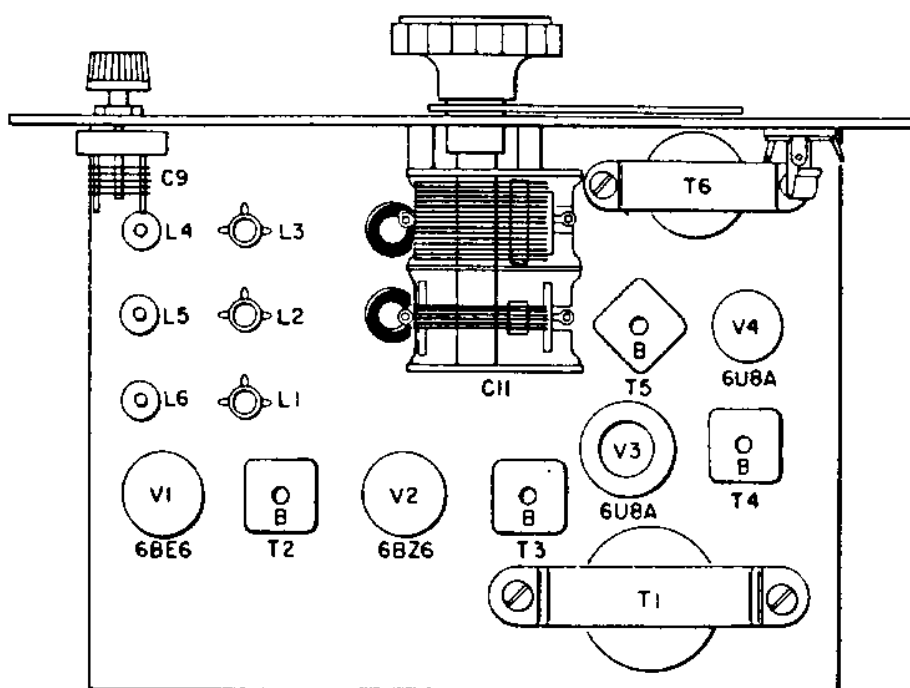
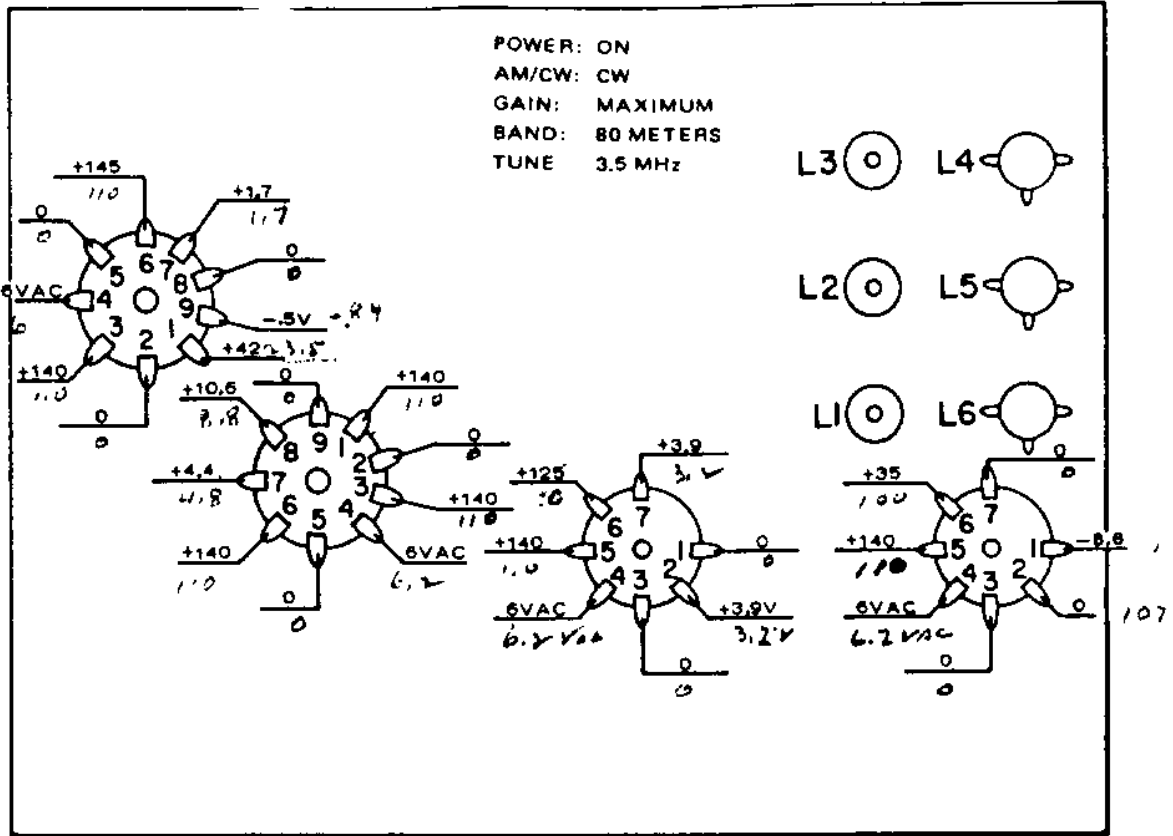
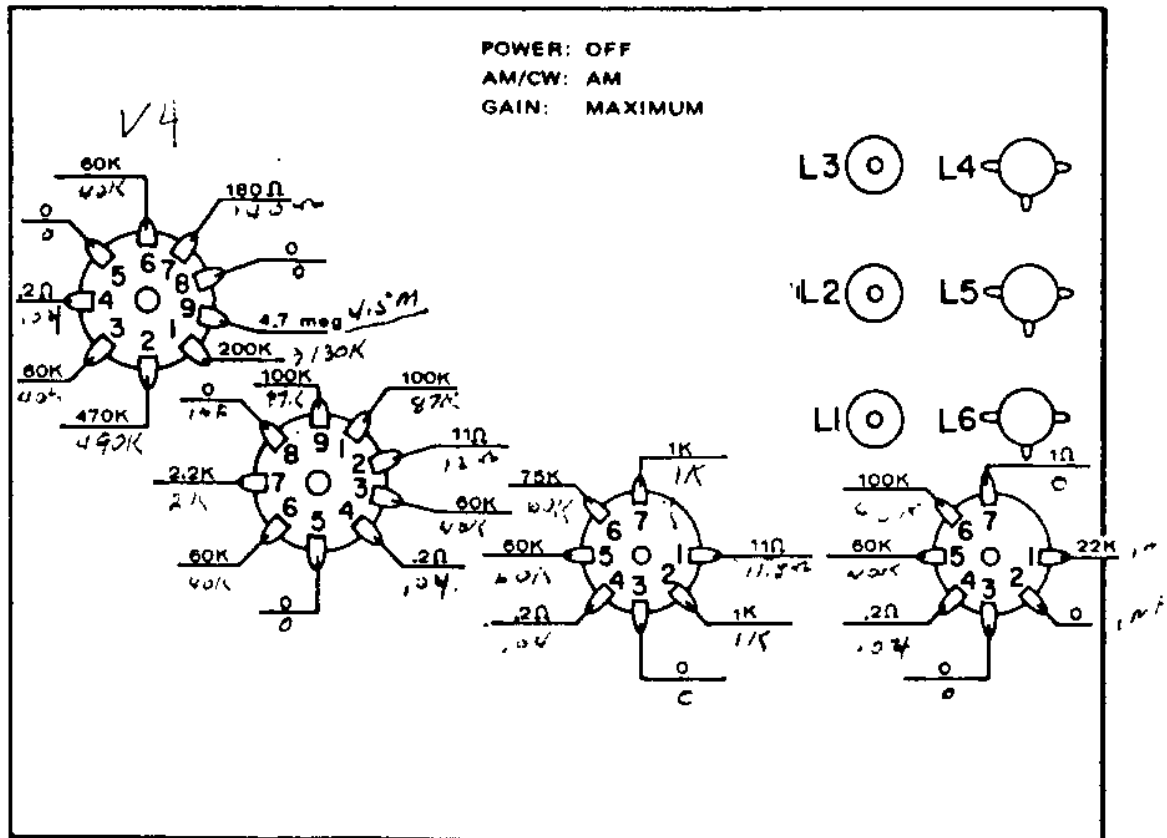
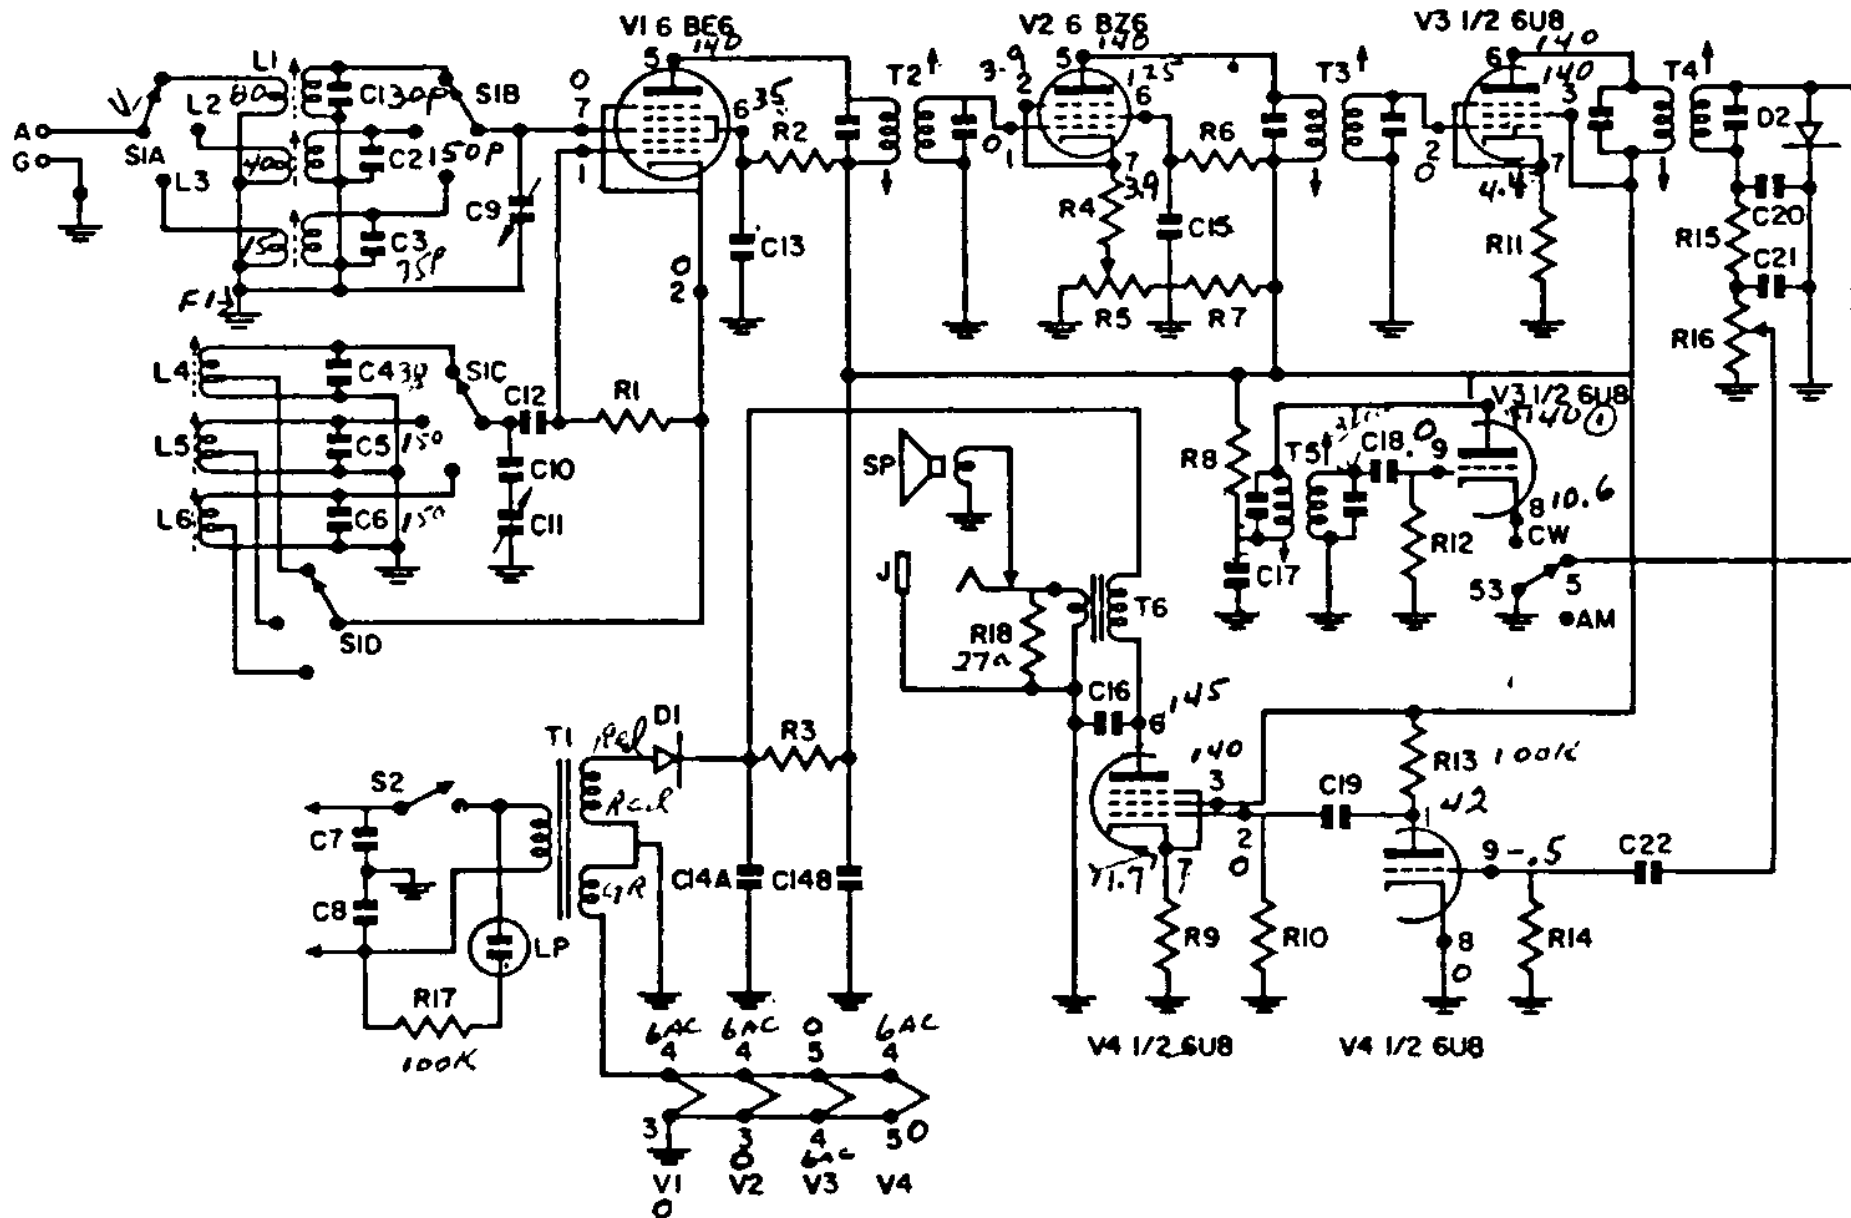

Fig. 5. Components on top of chassis.
Fig. 6. Voltage measurements.
Fig. 7. Resistance measurements.
Fig. 9. Schematic diagram of the Model 500 receiver
Fig. 5 shows the location of various parts on top of the chassis. The part number refers to the numbers on the schematic diagram in Fig. 9 (page 14). If after checking tubes your receiver does not operate properly, check tube voltages and resistances against the measurements shown in Fig. 6 and Fig. 7. Voltage measurements are made to chassis (B— or ground) to the point indicated with the power turned on.
Measurements shown in Fig. 6 were taken with a vtvm under the conditions shown in Fig. 6.
Resistance readings are shown in Fig. 7. Unplug the receiver before taking resistance readings. When writing CONAR for service consultation, be sure to include the voltage and resistance readings from your receiver to help us locate your trouble.
2. Disconnect the antenna and connect the signal generator to pin 1 of the 6BE6 converter V1 (see Fig. 6 and Fig. 9.) Adjust the signal generator to 455 kHz, modulated with a 400 Hertz audio tone.
3. Carefully adjust the top slug of T4 (see Fig. 5) for maximum audio output. If necessary, reduce the output of the signal generator for a comfortable sound level.
5. Set the tuning control to 3.5 MHz and adjust L4 (Fig. 5) for a maximum vtvm reading. If the dial was below 3.5 MHz in Step 4, turn L4 counterclockwise to align the oscillator. If the dial was above 3.5 MHz in Step 4, turn L4 clockwise to align the oscillator.